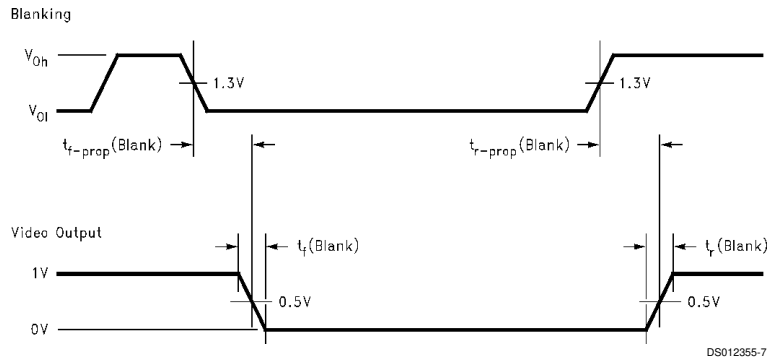
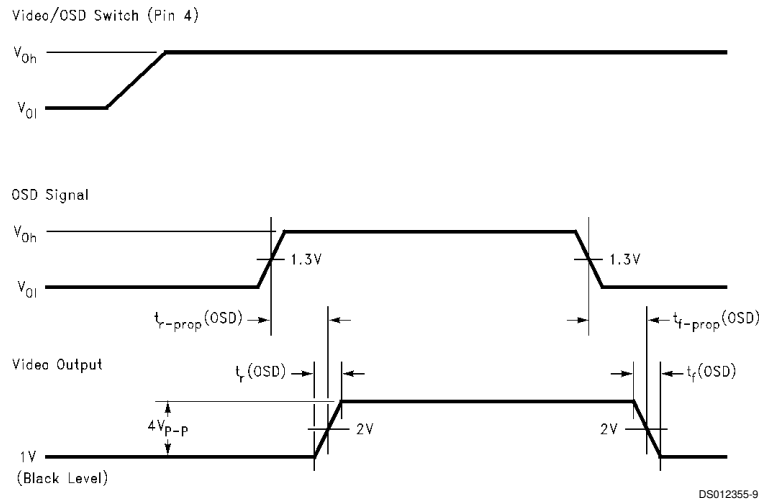

FIGURE 2. Blanking Propagation Delay and Rise/Fall Time
FIGURE 4. OSD Propagation Delay and Rise/Fall Times
*Figure 2* through *Figure 4* show the timing diagrams for the LM1281. When measuring propagation delays all TTL signals are measured at the time they cross 1.3V. The video